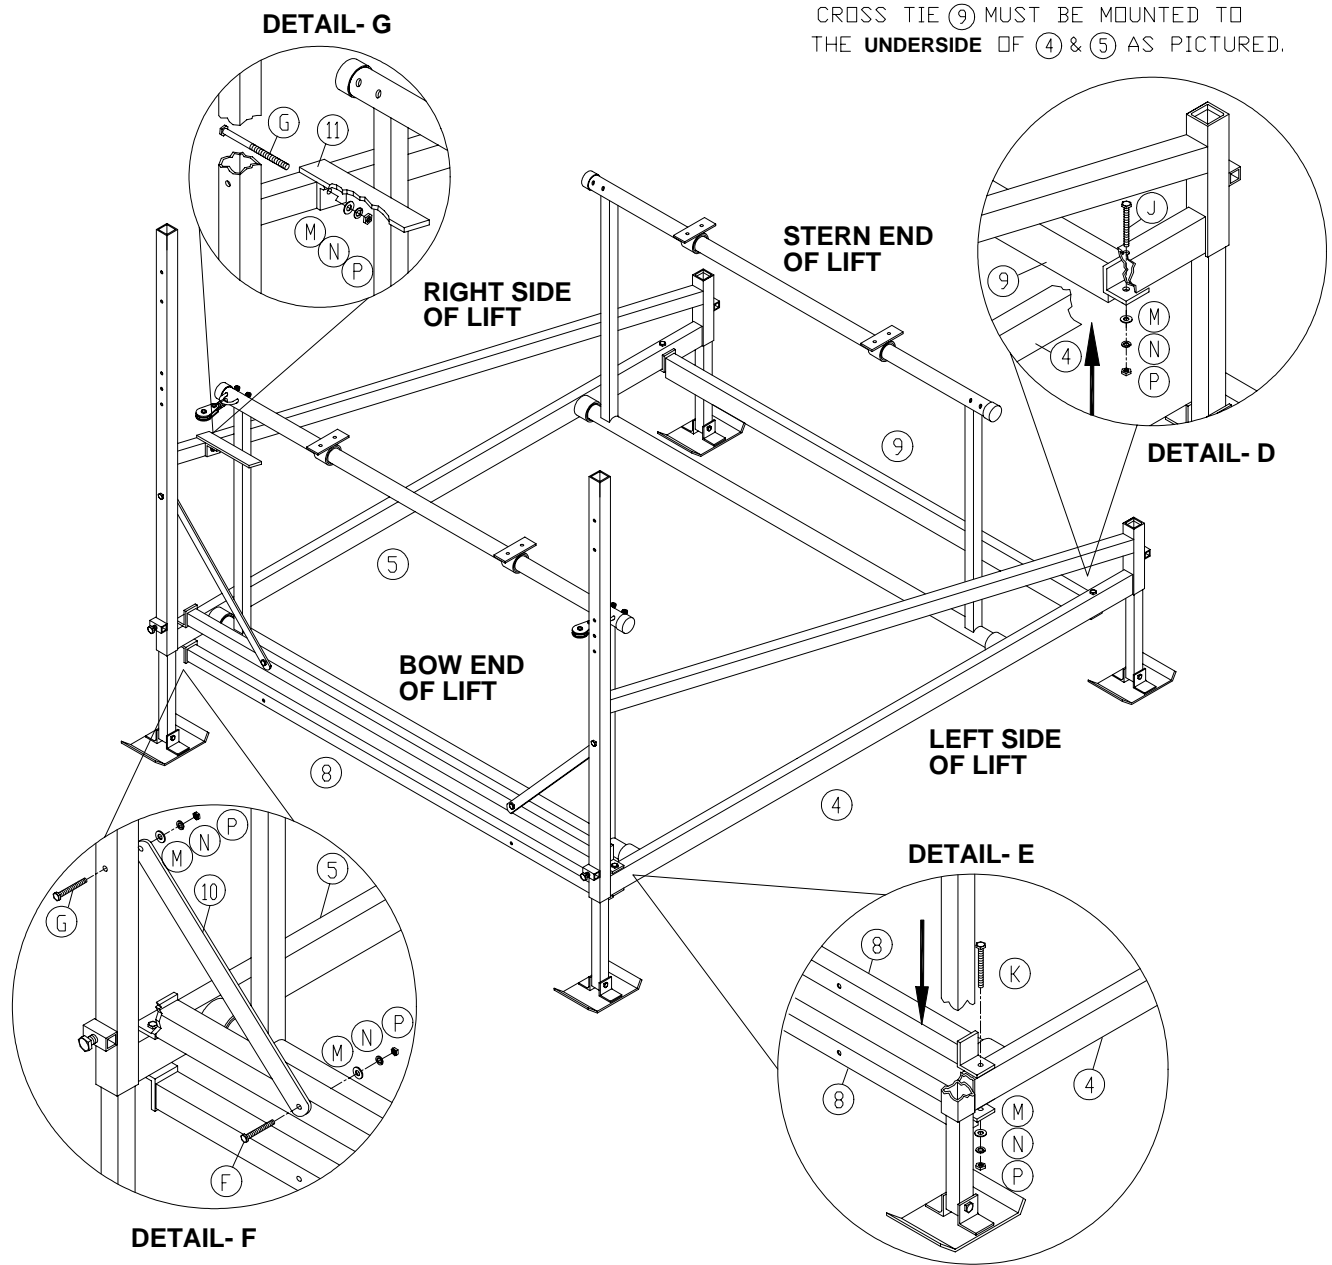

Figure 3-2.
1. Refer to **Figure 3-2**. Attach stern end cross tie to **underside** of side assemblies as shown in **Detail D**.